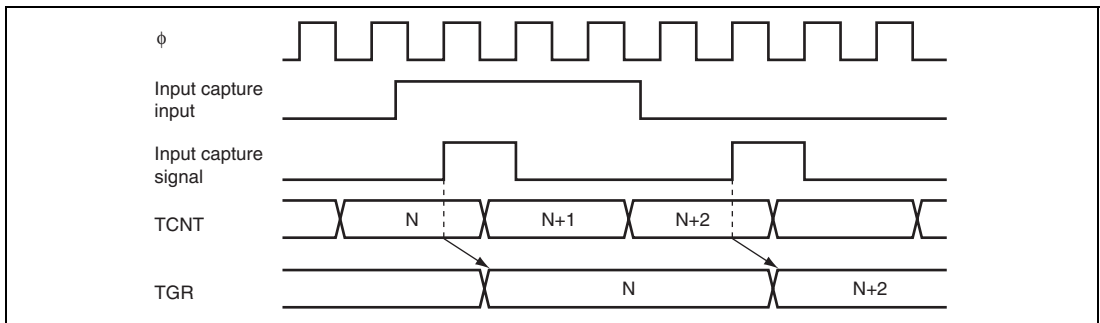

**Figure 10.33 Input Capture Input Signal Timing**
**Input Capture Signal Timing:** Figure 10.33 shows input capture signal timing.